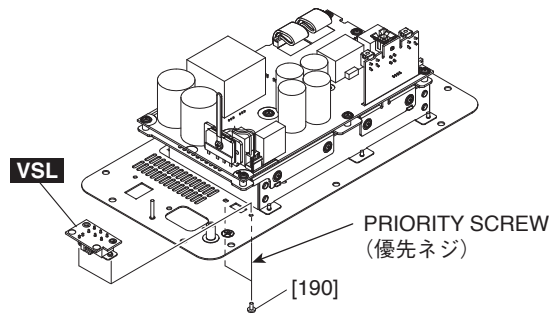

Fig. C-6 (図C-6)
- C-7-3 Remove the two (2) screws marked [190]. The VSL circuit board can then be removed. (Fig. C-6)
\* **When installing the VSL circuit board, first tighten the priority screw as shown in Fig. C-6.**
(図C-6)
※ **AMPSシートを取り付け時には、図に示す優先ネジを先に締めてください。(図C-6)**